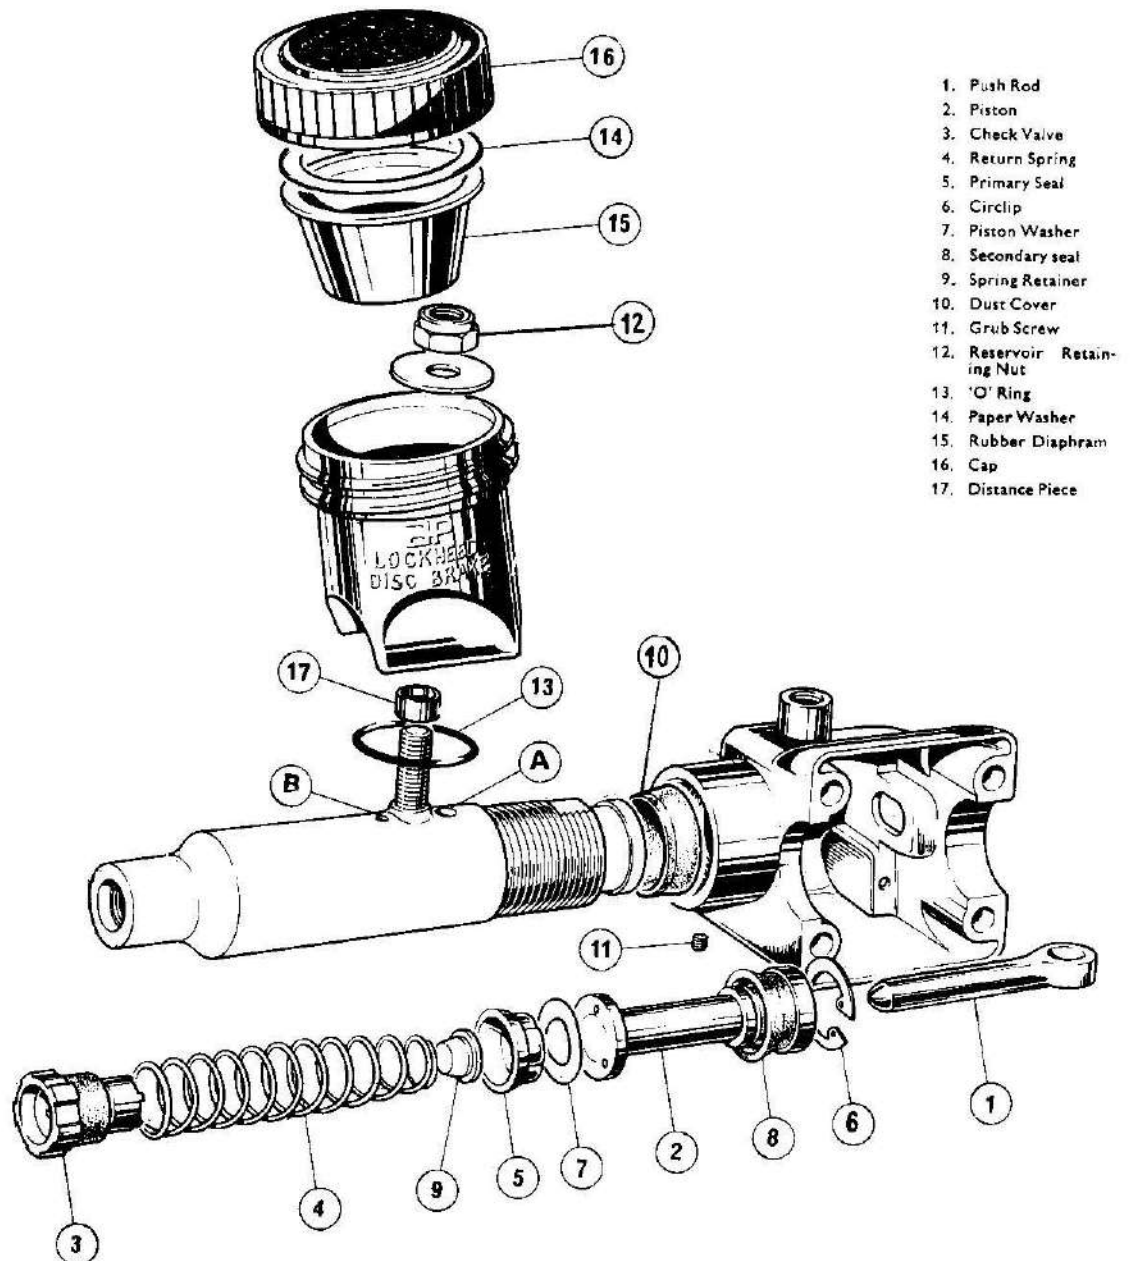
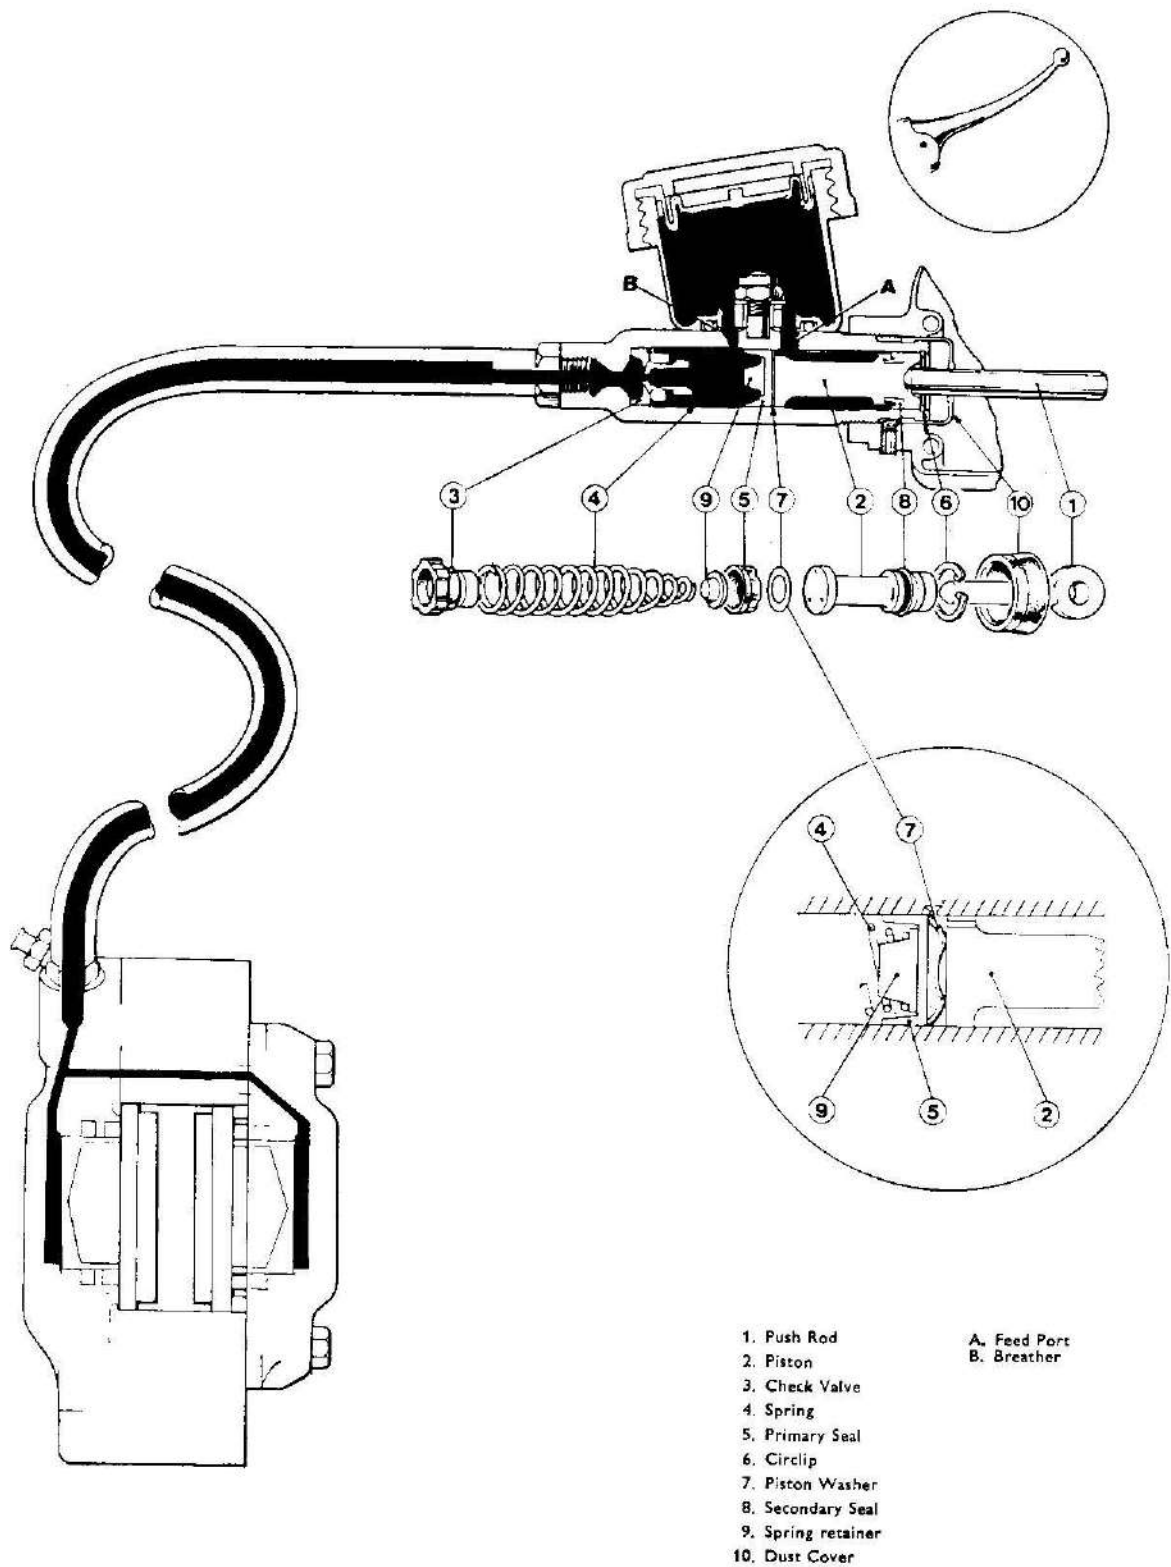

Fig. F29. Exploded view of master cylinder
Fig. F30. Hydraulic flow diagram
The master cylinder is mounted in the right hand handlebar electrical switch. It consists of a fluid reservoir bolted to a cylinder body containing a piston, seals and other parts as shown in Fig. F29. With reference to the hydraulic flow diagram (Fig. F30) and the exploded view (Fig. F29) the operation of the cylinder is as follows:— When the front brake lever is pulled on the push rod (1) moves the piston (2) down the bore. The displaced fluid in front of the piston is forced through holes in the check
Removal and dismantling procedure of the cylinder is as follows:— Firstly drain the system of fluid. See Section F22. Remove the rubber hose from the wheel cylinder. Remove the brake lever and push rod by unscrewing the pivot bolt. Unscrew the four retaining screws that retain the right switch console and remove the master cylinder from the handlebar. Detach the reservoir bowl from the cylinder by removing the attachment nut from the inside (See Fig. F29). Note assembly of washer, spacer and 'O' ring. Remove the grub screw that locks the cylinder in position in the switch housing (See Fig. F29) and then unscrew the cylinder. Detach the rubber boot from the end of the cylinder. Using the push rod (1) depress the piston in the cylinder to relieve the load on the spring and remove the circlip (6). Remove the piston (2) piston washer (7), primary seal (5), return spring (4) and check valve (3). The removal of the primary seal (5) may be simplified by applying gentle air pressure to the pipe connection at the end of the cylinder.
Fit the secondary seal (8) onto the piston (2) so that the lip of the seal faces towards the head (drilled end) of the piston. See Fig. F29. Gently work the seal around the groove with the fingers to ensure that it is properly seated. Fit the spring retainer (9) onto the small end of the spring (4) and the check valve (3) onto the large end. Insert the spring assembly onto the cylinder bore, large end first. Insert the primary seal (5) into the cylinder bore, lip foremost (See Fig. F29), taking care not to damage or turn back the lip. Insert the piston washer (7) into the barrel with the dished side towards the primary seal (5) (See Fig. F30) followed by the piston, head (drilled end) innermost, see Fig. F29. Push the piston inwards with the end of the push rod and refit the circlip (6). Make sure that the circlip beds evenly in its groove. Refit the boot (10) by stretching it over the barrel. Refit the reservoir bowl, not forgetting the 'O' ring and test the cylinder by filling the reservoir and pushing the push rod and piston inwards and allowing it to return unassisted. After a few applications fluid should flow from the outlet connection at the cylinder head.
If necessary refit the return spring. Empty the cylinder of fluid and proceed to re-assemble the cylinder barrel into the switch housing. At this stage the final position of the cylinder barrel in the housing must be determined. Here reference must be made to Fig. F30 (i). It will be observed from Fig. F30 (i) that the lip of the primary seal (5) must be $1/16$ of an inch behind the breather port and the reservoir set at an angle of 10° to the vertical. The milled flats on the threaded end of the cylinder are machined relative to the 10° position and the appropriate one must be used when assembly takes place.
- (4) Place one finger over the main feed port (A) Fig. F29 and by blowing through the outlet end of the cylinder it will be observed that no air will escape from the breather port (B) Fig. F29.
- (5) Now unscrew the cylinder barrel until air is heard to escape from the breather port (B). At this point the port will have just become uncovered.
- (6) Unscrew the barrel one complete turn and set the angle to 10° as shown in Fig. 31. The milled flat on the threaded end of the barrel must be located when the grub screw (Fig. F29) is being re-tightened and will set the angle automatically.